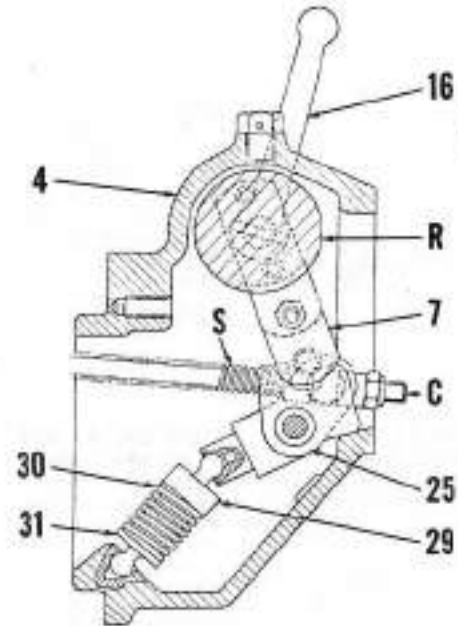

Fig. 163—View showing trip lever (25) and overcenter spring loaded link (29, 30 & 31) installation. Refer also to Figs. 160, 161 and 162.
Fig. 161—Schematic view of automatic hold mechanism; refer to Fig. 160 for exploded view. As rockshaft (A) reaches fully raised position, pin (F) in striker arm engages notch in trip lever (H) which moves spring loaded link (K) overcenter and through linkage, opens pump control valve (M). Moving override lever (C) out of detent position disengages clutch pins (B) making mechanism inoperative. Refer also to Fig. 163.